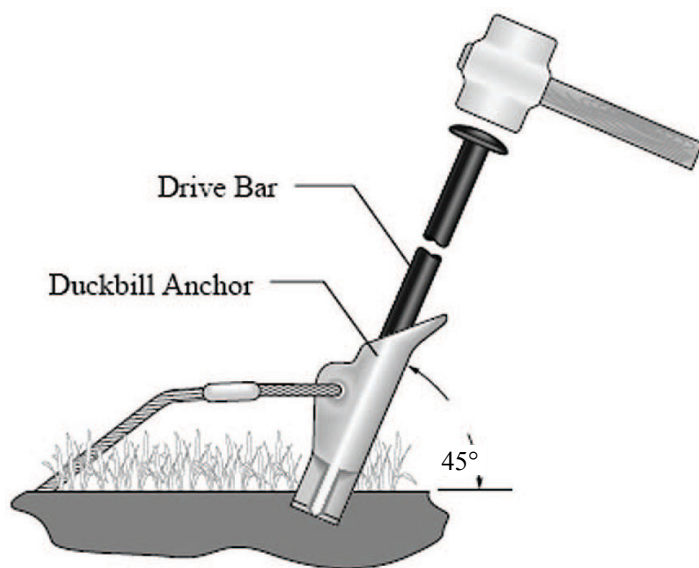

FIGURE 3-22. Anchor driven into ground at 45° angle
Step 2: At 20 ft, install the duckbill anchor with drive rod (see FIGURE 3-21). The anchor needs to be driven into the ground at a 45° angle (see FIGURE 3-22). Drive anchor until the loop or metal ring is several inches above the ground.